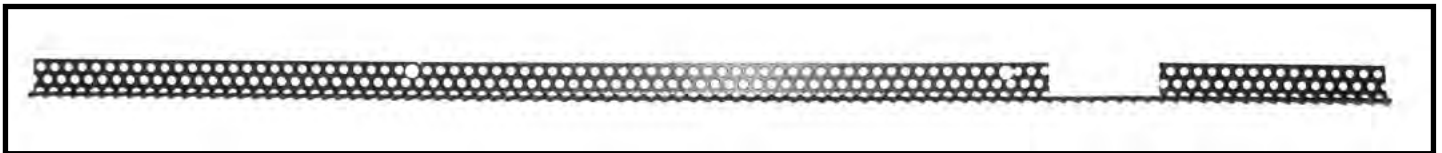
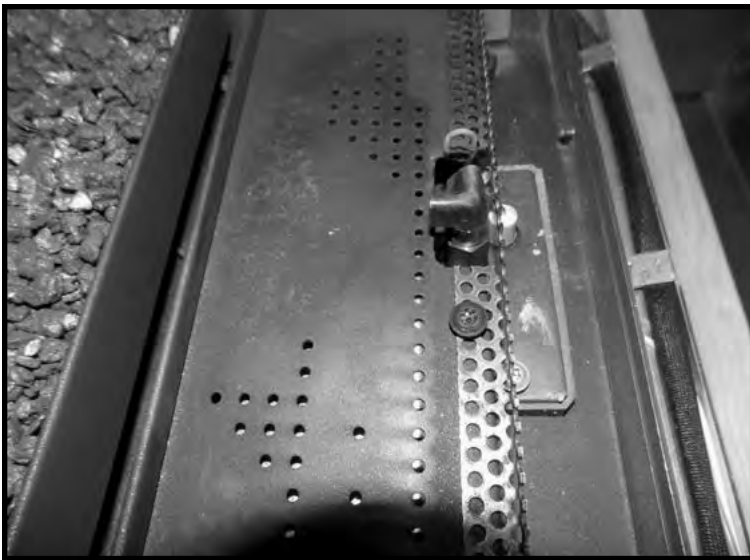

Figure 88: Front mesh guard.
Figure 89: Front mesh guard in place.
2. Use 2 screws to secure the front mesh guard (Figure 88) along the leading edge of the front burner. The gap on the right side of the guard will fit around the pilot assembly as shown in Figure 89.